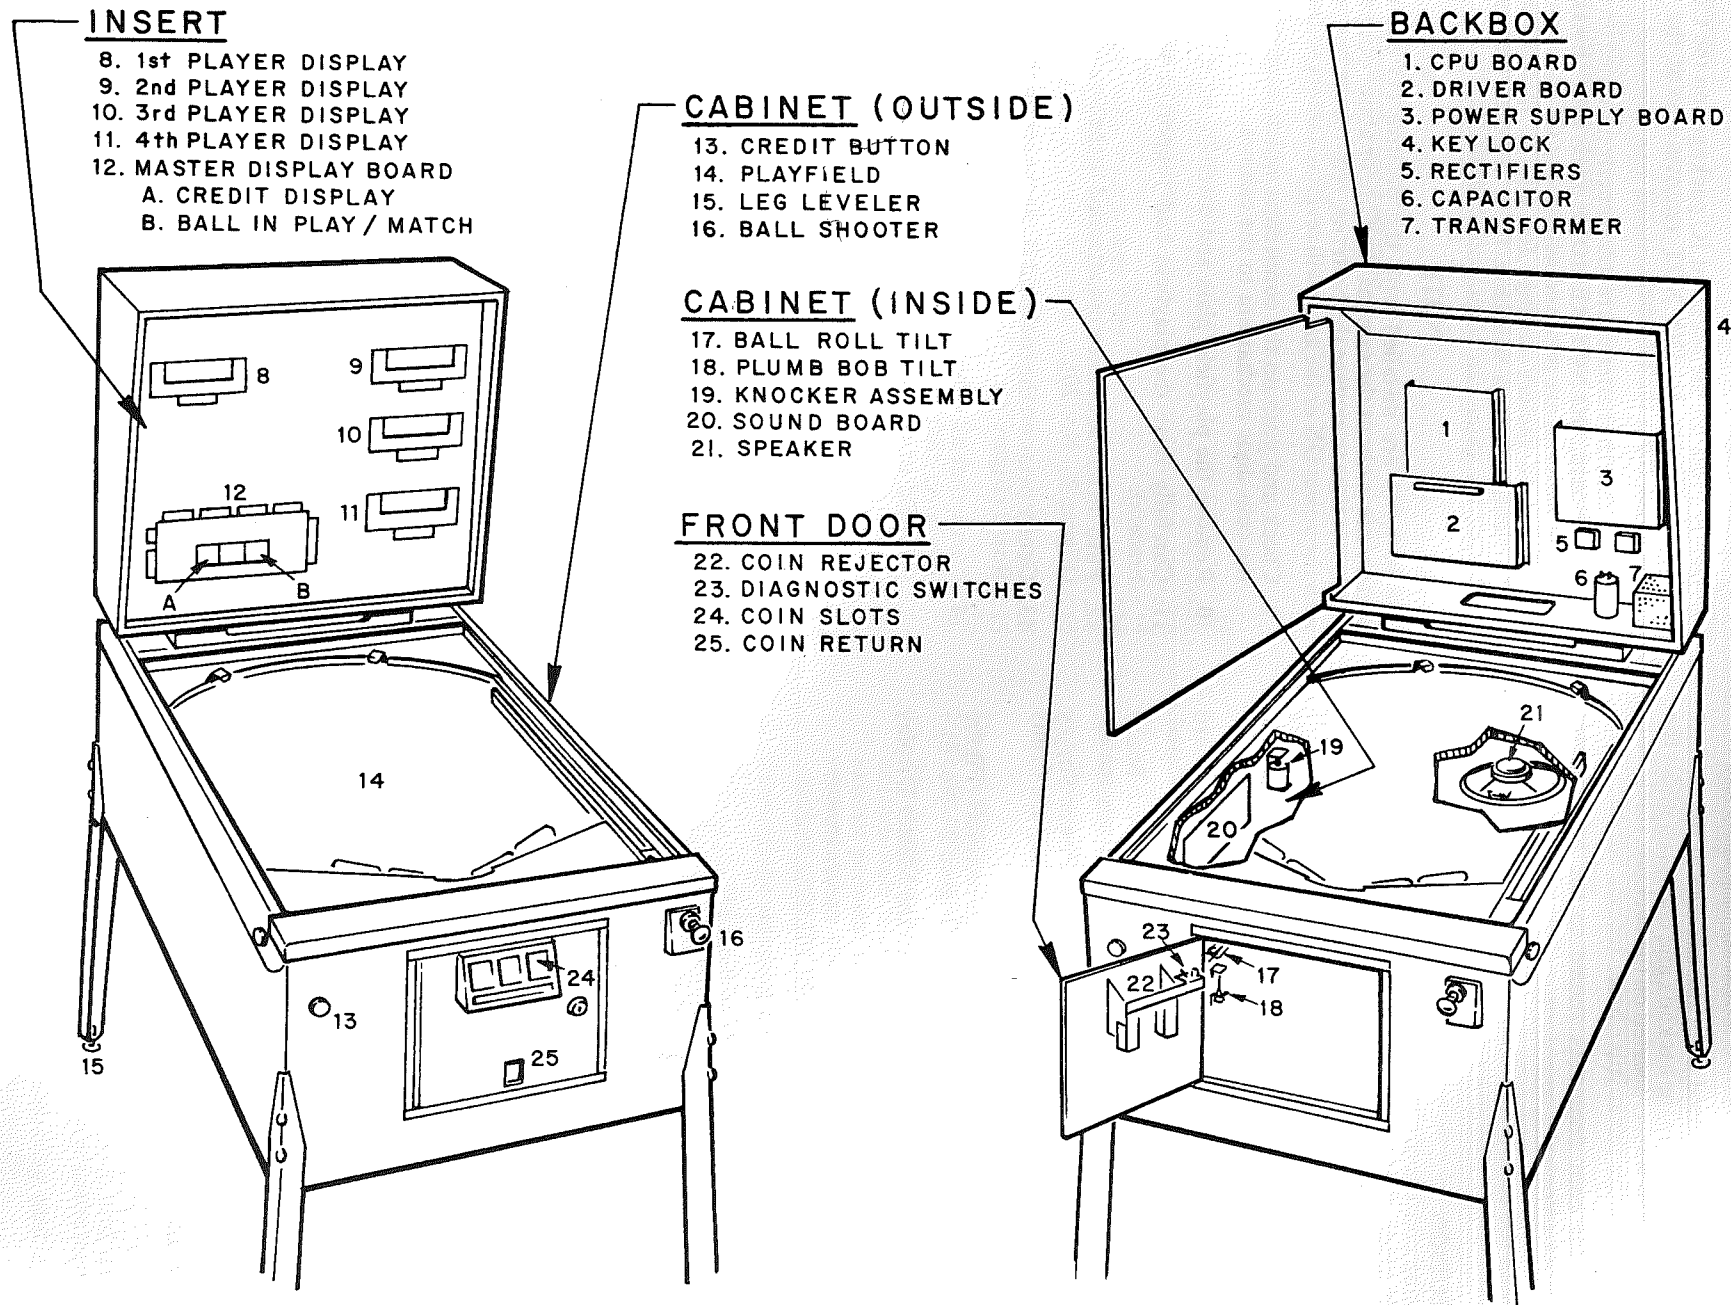

Figure 2. Location of Major Assemblies
2. Push on all connectors attached to the CPU Board (Figure 2—No. 1) to make sure they are firmly seated.
3. Push on all connectors attached to the Driver Board (Figure 2—No. 2) to make sure they are firmly seated.
4. Push on all connectors attached to the Power Supply Board (Figure 2—No. 3) to make sure they are firmly seated.
5. Check the connection on both bridge rectifiers (Figure 2—No. 5) and the filter capacitor (Figure 2—No. 6).
Board (Figure 2—No. 12) and the four individual player displays (Figure 2—Nos. 8, 9, 10, and 11).
12. Push on all the connectors attached to the Sound Board (Figure 2—No. 20).
- b. Plumb Bob and Ball Roll tilts (Figure 2 Nos. 18 and 17).
2. If the game comes on with the number of credits display (Figure 2—No. 12A) showing 04, the ball in play display (Figure 2—No. 12B) showing 00, and the player 1 display showing the PROM identification and revision number, turn the game OFF and then ON again. The game should now come up in the game over mode.